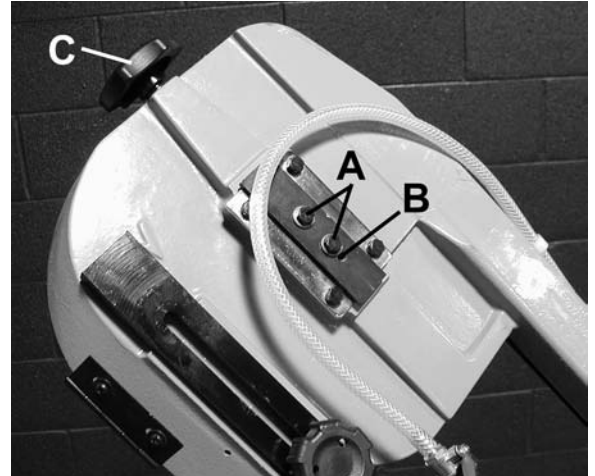

FIGURE 10
3. Loosen the hex bolts (A) Fig.10 in the tilting mechanism to a point where it is loose but snug.
4. With the machine running, adjust both the set screw (B) and blade tension knob (C) simultaneously to keep constant tension on the blade. The set screw and blade tension knob are always turned in opposite directions, ie. when one is turned clockwise, the other is turned counterclockwise. The blade is tracking properly when the back side just touches the shoulder of blade wheel or a slight gap appears near the center line of the blade wheel. Care should be taken not to overtighten the saw blade since this will give a false adjustment and limit life of the blade.
5. Tighten the hex bolts (A) in tilting mechanism. **IMPORTANT:** Sometimes in trying to make this critical adjustment, it is possible to cause the basic setting to be misaligned. Should this occur, proceed as follows:
- a. Loosen the set screw (B) and back it out as far as it can go and still remain in the threaded hole.
- b. Turn the hex bolts (A) clockwise until they stop (do not tighten).
- c. Turn the set screw (B) clockwise until it bottoms, then continue for half a turn and check the tracking by turning on the machine.